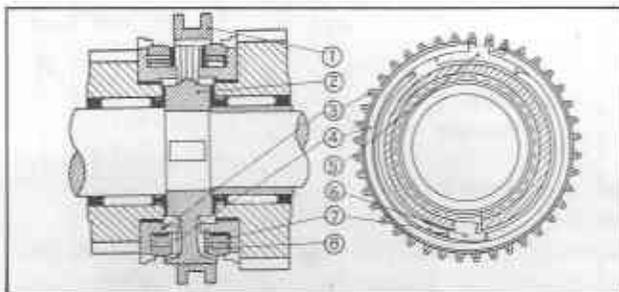

Fig. TM-47 Synchromesh device
The clutch gear ③ is pressed onto the main shaft gear. The synchronizer ring ④, thrust block ⑤, anchor block ⑥, and the two brake bands ⑦ are mounted on the clutch gear ③ as shown in Figure TM-47 and are held in position by a circlip ⑧. Between the two gears (which are free to rotate on the shaft) is the coupling sleeve ① which moves axially along the synchronizer hub ②.